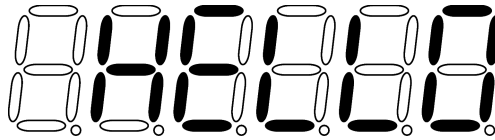

Figure 26: Result of SayHello code
- Press Key A: LED3 lights, buzzer sounds, display shows “HELLO” as shown in Figure 26.